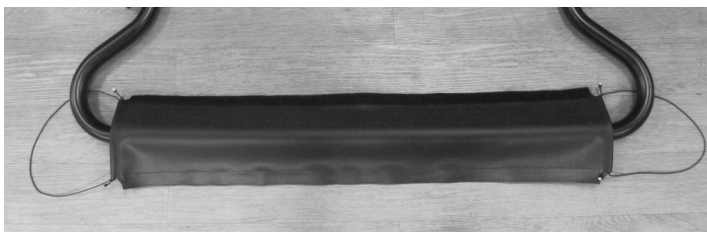

Figure 6
6. Unfold the new footbar cover as shown with the textured side up. The side of the cover with Velcro should face the bottom of the footbar. The cover should be on top of the foam and the string loops should be under either side of the footbar. See Figure 6.